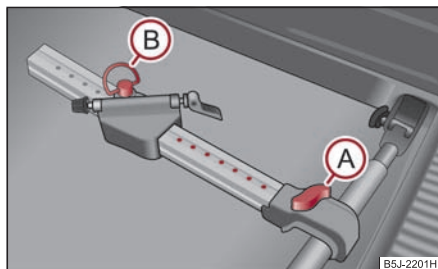

Fig. 93 Install bicycle carrier
- Position the approved bicycle carrier on the middle of the cross member, after pulling up the screw (A) push the frame side rail (alupart) towards the cross member and screw the screw (A) into the nut ⇒ fig. 93.
- Slacken the screw (B) and take it out of the moveable part of the fixture; position the moveable part of the carrier, depending on bicycle size, into one of the possible positions, so that it does not come in contact with the boot lid. We recommend to place the moveable part of the fixture in such a position that the holes are visible between the screw (A) and the moveable part.
- Insert the screw (B) into the desired position and tighten. ■
- Slacken the screw **(A)** ⇒ page 77, fig. 93 and push the bicycle holder together with the attached bicycle to the left (in the direction of the arrow), so that no collision between the steering arm and the side window of the luggage compartment can occur.